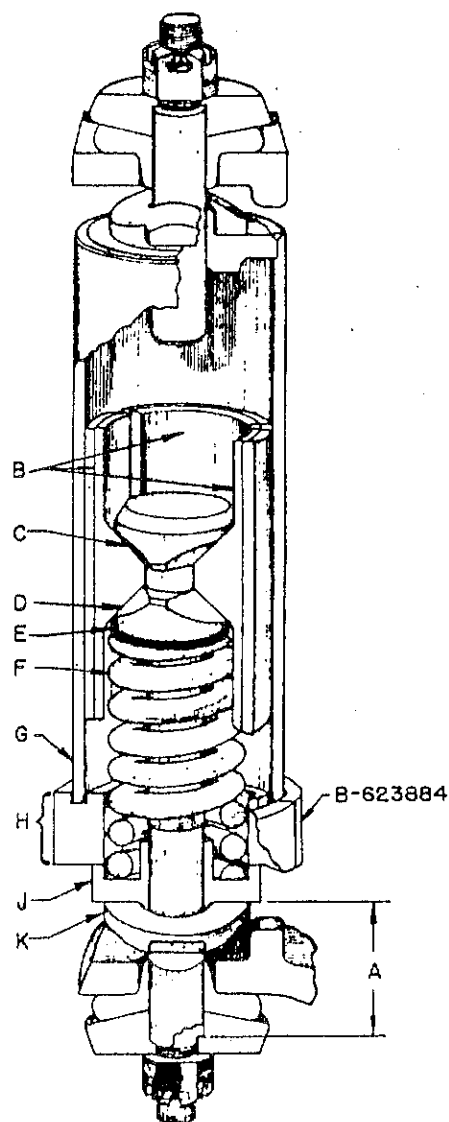
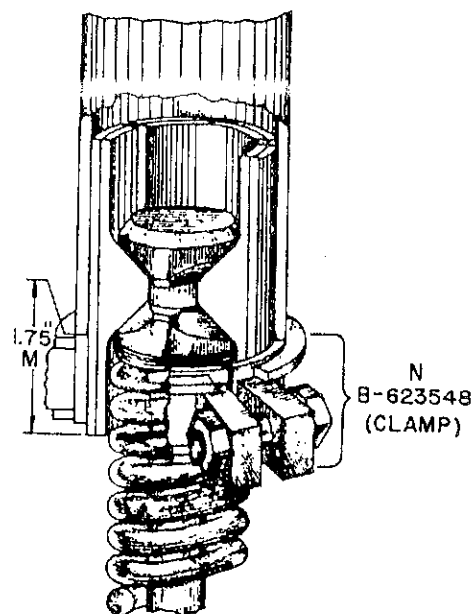

Fig. 34-HOUDAILLE-HERSHEY SPRING SNUBBER
Fig. 35 - SNUBBER-PARTIAL VIEW
2. Remove double faced rocker, Fig. 34.
3. a. The snubber should be extended so that there is 1-1/2" between the spring retainer (J) and the end of the barrel (G), Fig. 34. This can be done with a press equipped for pulling. If vise-type grips are used, caution should be used not to damage the threads on the studs of the snubber.
- b. If a press is not available, a crow bar used between blocks of suitable height, and the end of the barrel (G), Fig. 34, can be used to extend the snubber.
4. Insert split spacer ring (H) (Houdaille Hershey tool no. B6 23884) between the bottom of the barrel (G) and the top of the spring retainer (J), Fig. 34.
9. Press on spring retainer (J) to the "A" dimension shown in Fig. 34. For snubber (long shoe) numbers A-17524, C-625934 and D-626957, $A = 2.260 - 2.270$ " (snubber number can be found on the snubber barrel nameplate).
1. Shoes should be withdrawn so that 1.75" of the friction shoes (M), Fig. 35 are exposed (using method described in item 3-a under COMPLETE DISASSEMBLY, and clamp shoes tightly with clamp (N) (Houdaille Hershey tool no. B-623548). Pull shoes out a maximum of 2" further and place a second clamp (Houdaille Hershey tool no. B-623548) around the shoes, making sure to clamp securely.
For snubbers with short shoes, shoes should be withdrawn so that 1.75" of the friction shoes (M), Fig. 35, are exposed (using method described in Item 3-a under "Complete Disassembly") and clamp shoes tightly with clamp (N) (Houdaille Hershey tool no. B-623548). The shoes should not be extended further than 1.75" beyond the first clamp until the second clamp is securely in place.
2. After the second clamp is securely in place, remove the entire assembly. Now slowly and evenly loosen the six (6) bolts on the two clamps. When the spring tension is relieved, the clamps and shoes can be removed.
3. Replace the worn shoes with the proper replacement shoes. Apply Lubriplate No. 320 to wedge bolt (C), Fig. 34, and free wedge ring (D) Fig. 34.